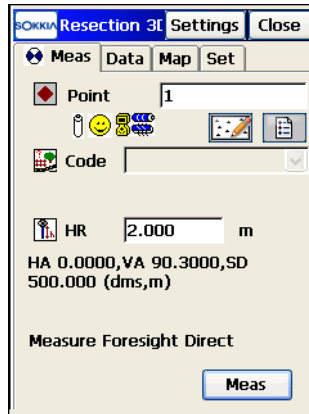

Figure 8-40. Resection
- On the **Resection 3D** screen (Figure 8-40), select the point of known coordinates from the map or from the list.